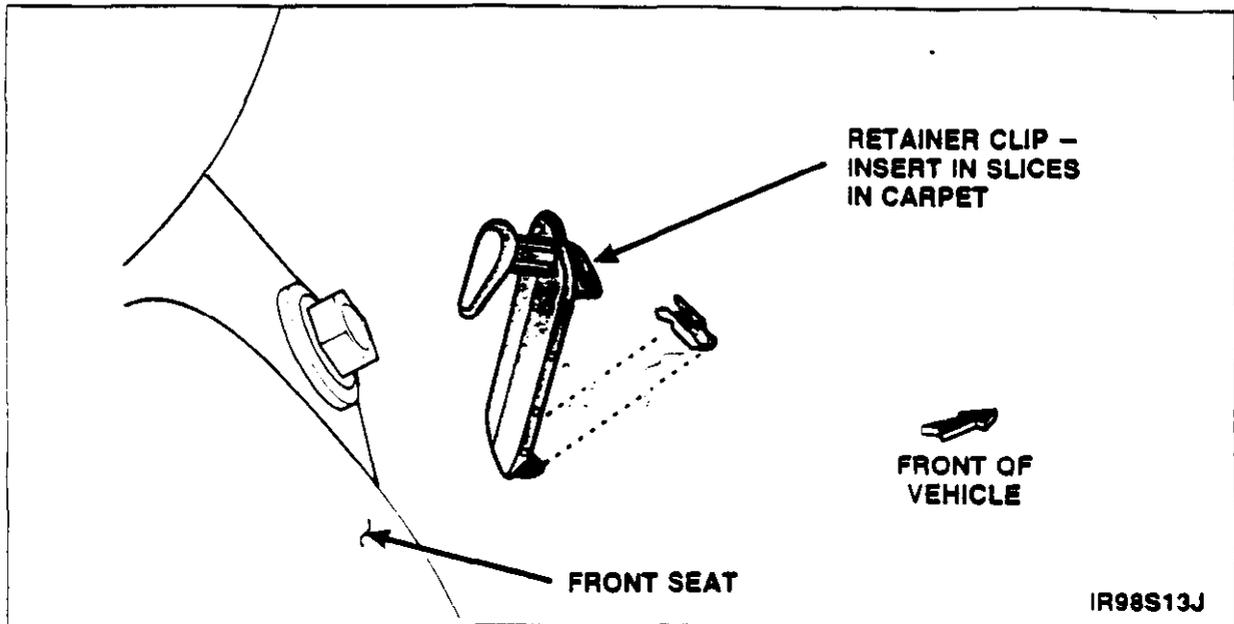
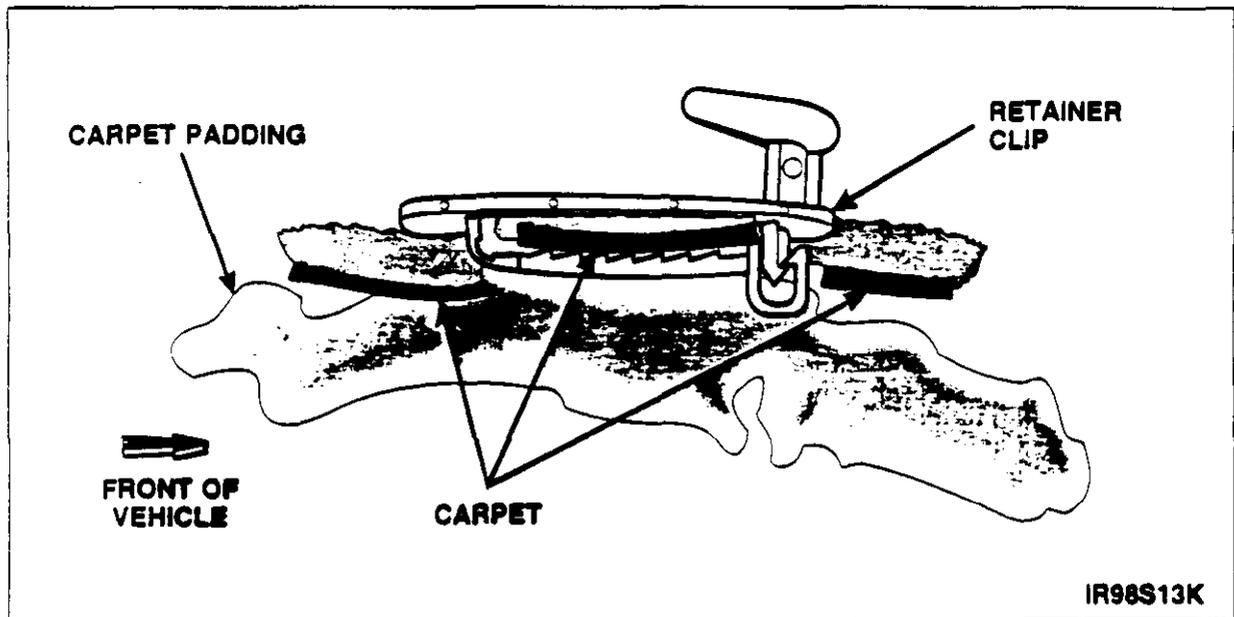

FIGURE 15
FIGURE 16
32. Insert floor mat retainer clip into cuts in carpet as shown in Figure 15. Clip must be between carpet and padding. Refer to Figure 16.